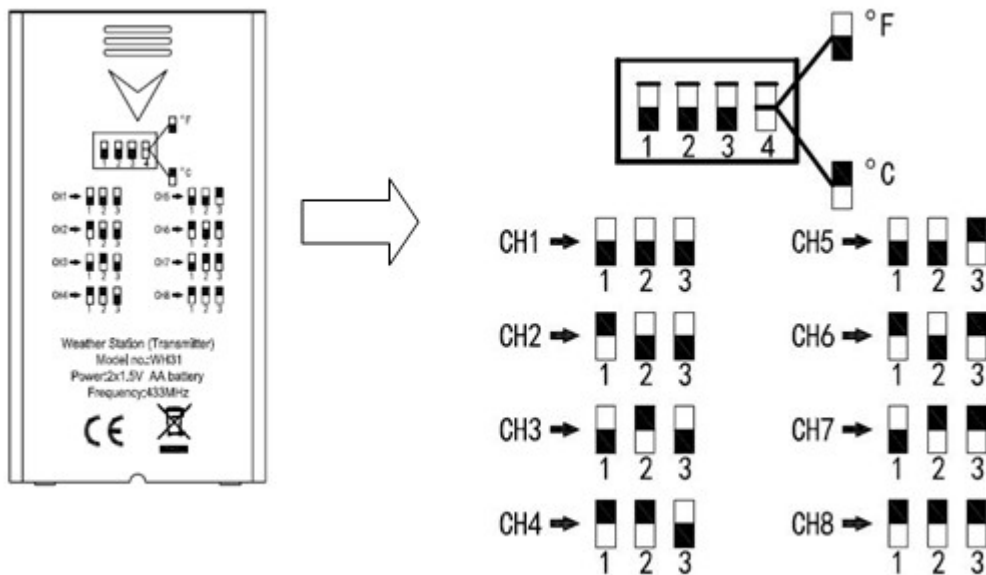

Figure 24
3. Channel Number: The WS-5000-IP supports up to eight transmitters. To set each channel number (the default is Channel 1), change Dip Switches 1, 2 and 3, as referenced in Figure 24.
4. Temperature Units of Measure: To change the transmitter display units of measure ($^{\circ}\text{F}$ vs. $^{\circ}\text{C}$), change Dip Switch 4, as referenced in Figure 24.